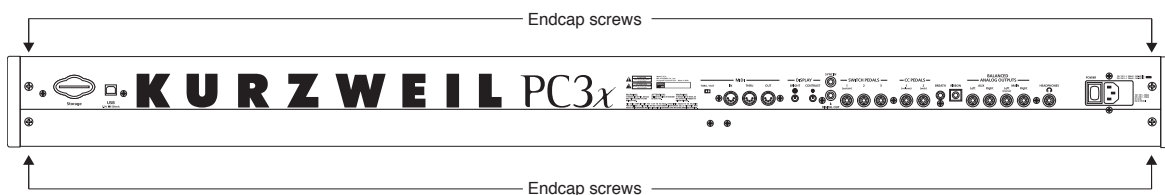

Figure 3-3 PC3x rear panel
1. Refer to Figure 3-3.
6. Refer to Figure 3-3. Install the four endcap screws in the rear panel.